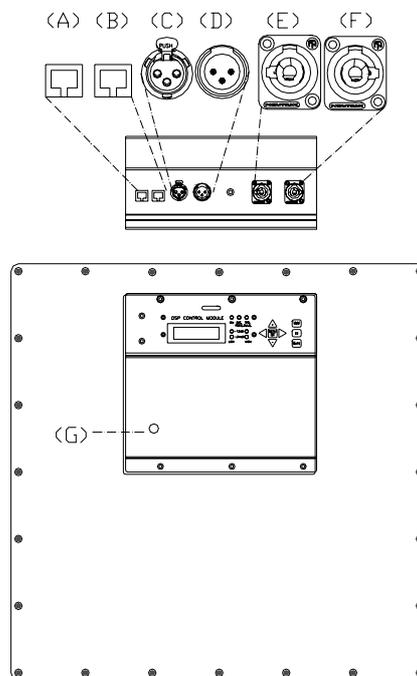

Fig.2. Connections panel for **MAW-218/D**
When the Overvoltage LED lights (in RED) (Fig.2. **LED OVERVOLTAGE (G)**), the cabinet stops working (or works intermittently) until the correct voltage values are reached again.